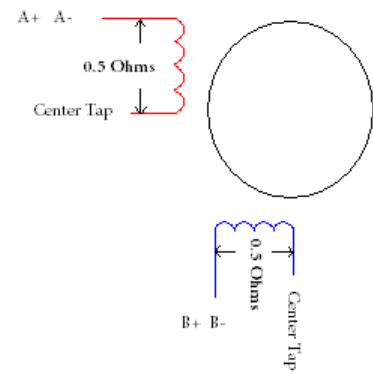

Fig 5 - 6 wire, Parallel Connected
3. 6-wire motor (Parallel Connected): In a 6-wire Parallel connected stepper motor the center tap is used. The user must connect the A+ and A – and B+ and B – wires together. Then, connect one motor phase to A + and A – on the drive, and the other motor phase to B+ and B- on the drive. (Fig. 5)